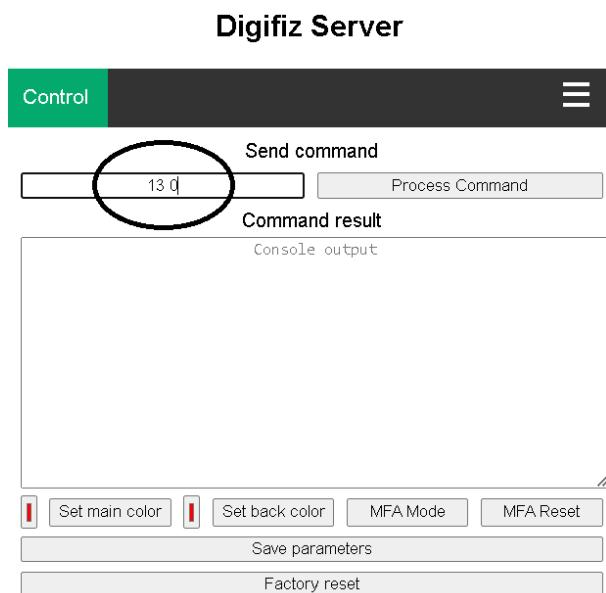

Figure 8.3 / Example command sequence disabling automatic brightness.
The Control tab provides a command input line (1), a Process button (2), a result window (3), quick controls (4), a Save button (5), and a Reset button (6). Enter commands as space-separated pairs <number> <value> using integers only; punctuation and quotation marks are not required. Figure 8.3 illustrates the interface while toggling automatic brightness.